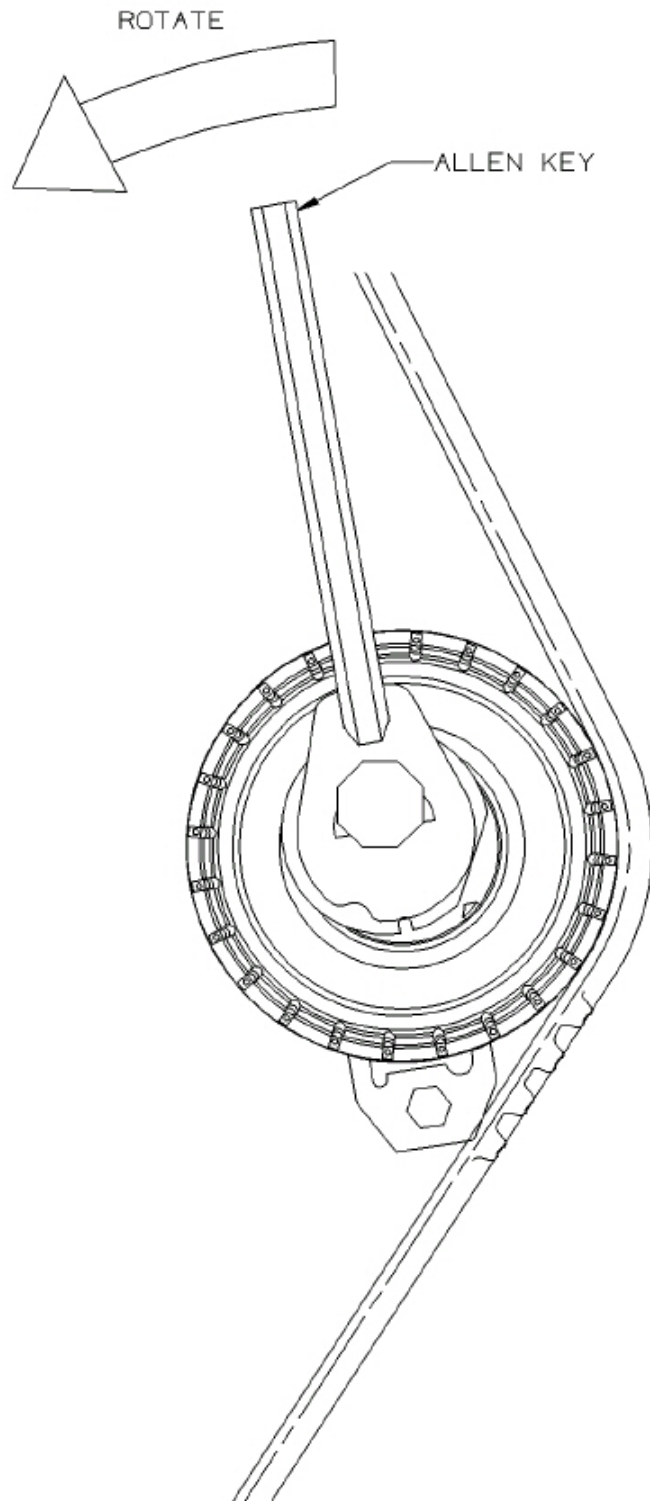
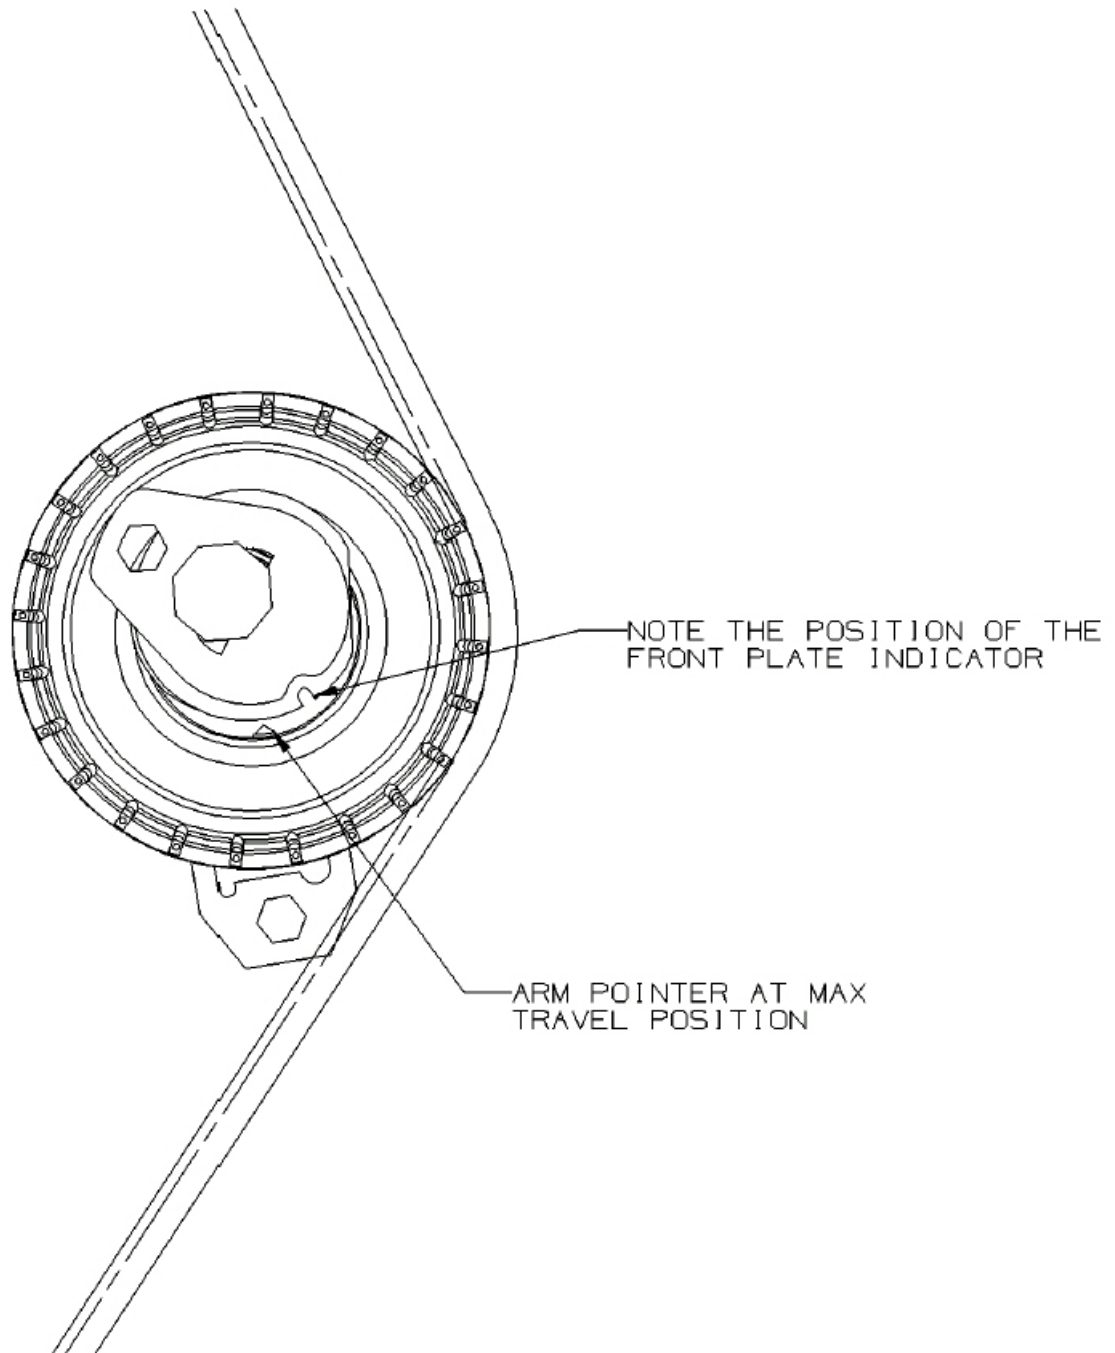

Figure 5: Tensioner rotated counterclockwise into belt.
Figure 6: Proper initial setup of tensioner.
7. Push the tensioner into the belt by rotating the Allen Key counterclockwise (See Figure 5). The tensioner assembly will move against the belt and the Arm will eventually start to move CLOCKWISE. Continue pushing the tensioner until its maximum travel position is reached (See Figure 6).
9. Rotate the crankshaft two (2) complete revolutions manually for proper seating of the belt until the crankshaft is repositioned at the TDC position.